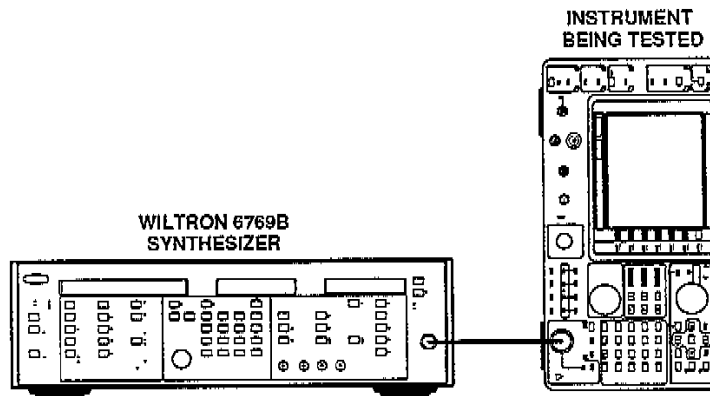

Figure 3-33. Fast Sweep Preselector Driver adjustment setup.
1. Connect test setup as illustrated in Figure 3-33.